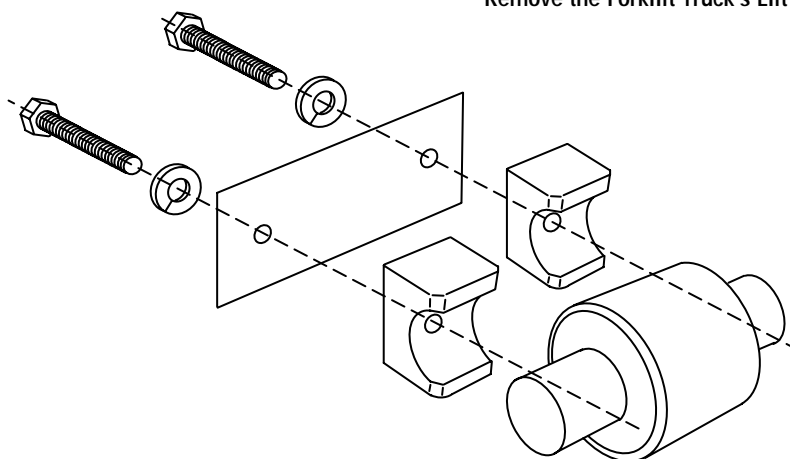

Figure 2-5: Side Roller Assembly
14. Locate the side roller on each side of the lift bracket. Remove the two bolts that secure each side roller assembly to the lift bracket (see Figure 2-5). Keep these assemblies together because you will need to install them on the scale carriage. Note the position of any shims used in the assemblies.